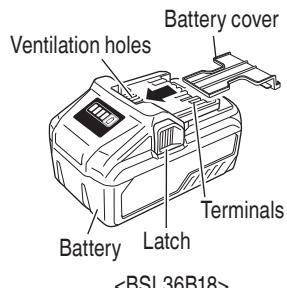

Fig. 7
- **Either install the battery in the power tool or store by securely pressing into the battery cover until the ventilation holes are concealed to prevent short-circuits (See Fig. 7).**